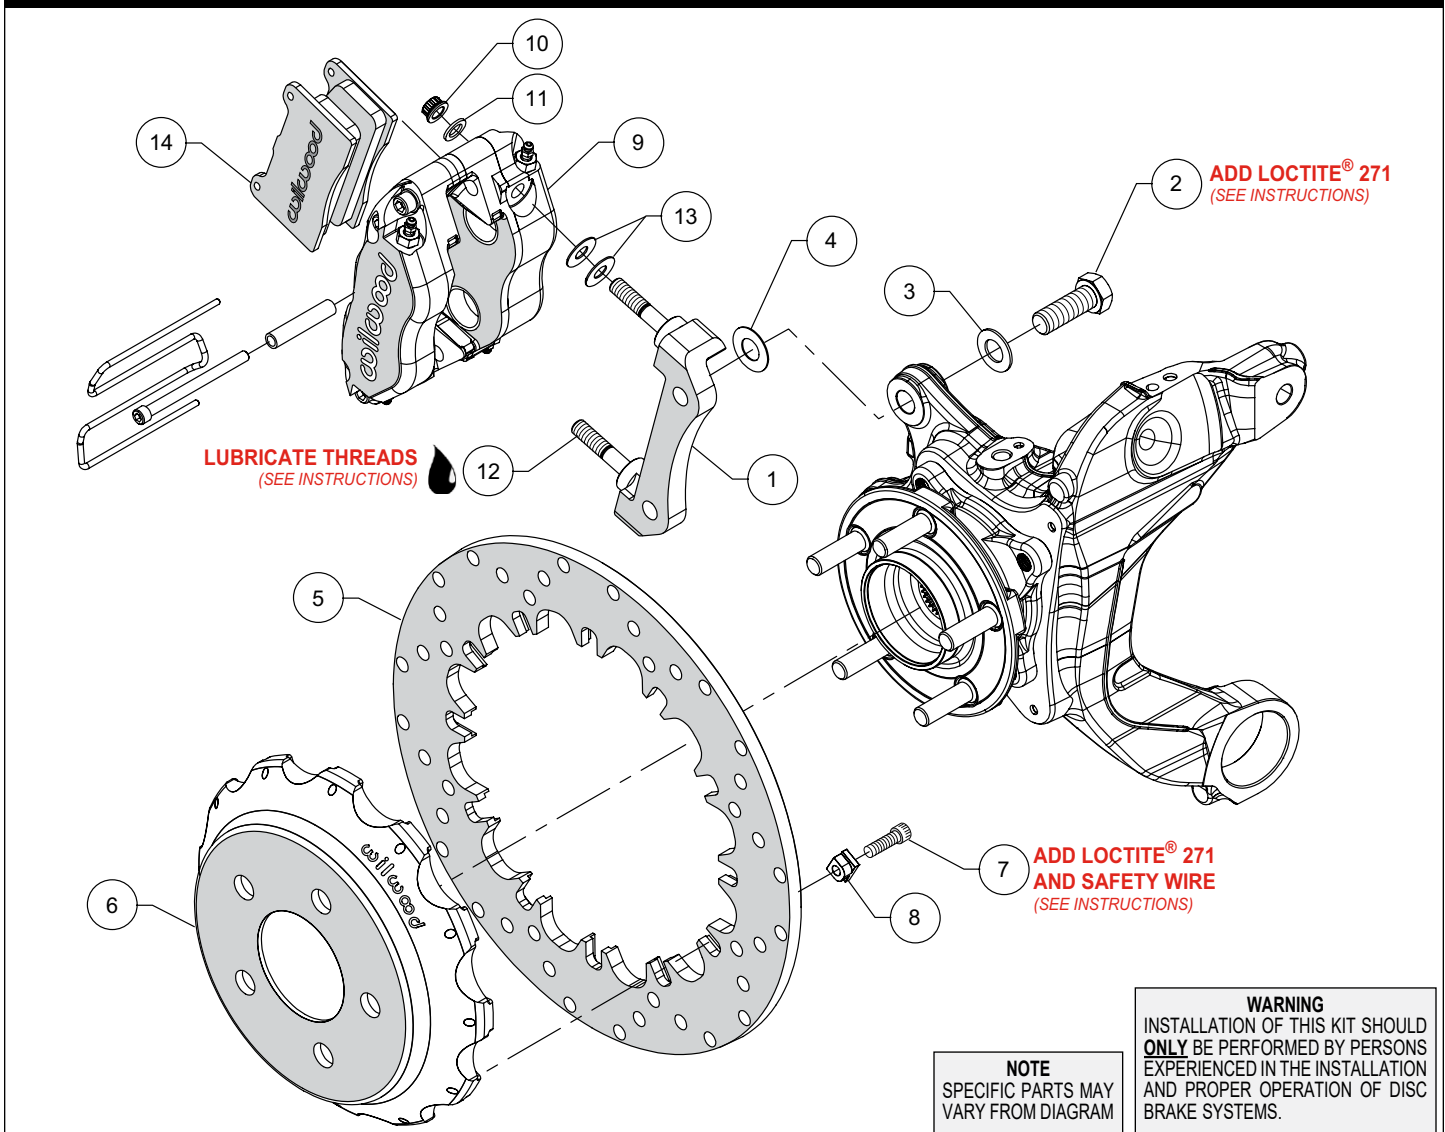
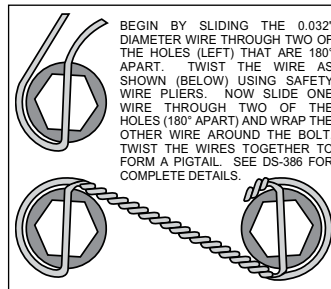

Figure 1. Typical Installation Configuration
Figure 3. Safety Wire Diagram
NOTE: Numbers in parenthesis refer to the parts list and Figure 1 on the preceding pages.
- The caliper mount bracket (1) should initially be installed with clean, dry threads on the mounting bolts. Orient the bracket, as shown in Figure 1 and Photo 1, and install using bolts (2) and washers (3). Initially place one .033" thick shim (4) on each bolt between the bracket and upright, Figure 1. Temporarily tighten the mounting bolts. **NOTE:** The bracket must fit squarely against the mount bosses on the upright. Inspect for interference from casting irregularities, machining ridges, burrs, etc. Later, after the caliper alignment has been checked, the mount bolts will be secured using red *Loctite*® 271.
- Orient the rotor (5) and the hat (6) as shown in Figure 1 and Photo 2. Attach rotor to hat using bolts (7) and t-nuts (8). Apply red *Loctite*® 271 to the bolt threads and torque to 120 in-lbs using a criss-cross pattern. The bolts must be safety wired using standard 0.032 inch diameter stainless steel safety wire as shown in Figure 3. Refer to Wilwood's data sheet DS-386 (available at www.wilwood.com/Pdf/DataSheets/ds386.pdf) for complete safety wire installation instructions.
- Lubricate the caliper mounting studs (12) with lightweight oil. Initially place two .035" thick shims (13) on each stud as shown in Figure 1 and Photo 4. Mount the caliper (9) onto the bracket (1) using lock nuts (10) and washers (11), Figure 1. Temporarily tighten the lock nuts and view the rotor through the top opening of the caliper. The rotor should be centered in the caliper, Photo 5. If not, adjust by adding or subtracting shims (4) between the bracket and the mounting bosses. Once the caliper alignment is correct, remove the bracket mounting bolts one at a time, apply red *Loctite*® 271 to the threads, and torque to 77 ft-lbs.
- Insert the brake pads (14) into the caliper with the friction material facing the rotor (5), as shown in Figure 1 and Photo 6. Check that the top of the brake pad is flush with the outside diameter of the rotor, Photo 7. If not, adjust by adding or subtracting shims (13) between the caliper and the bracket. After the caliper pad height is set, torque the caliper lock nuts (10) to 30 ft-lb. Secure the pads in place using the pad clip retainer as well as the center bridge pad retainer tube, bolt, and locknut, Photo 8. The locknut should be snug without play in the bolt or tube. Be cautious not to over tighten.